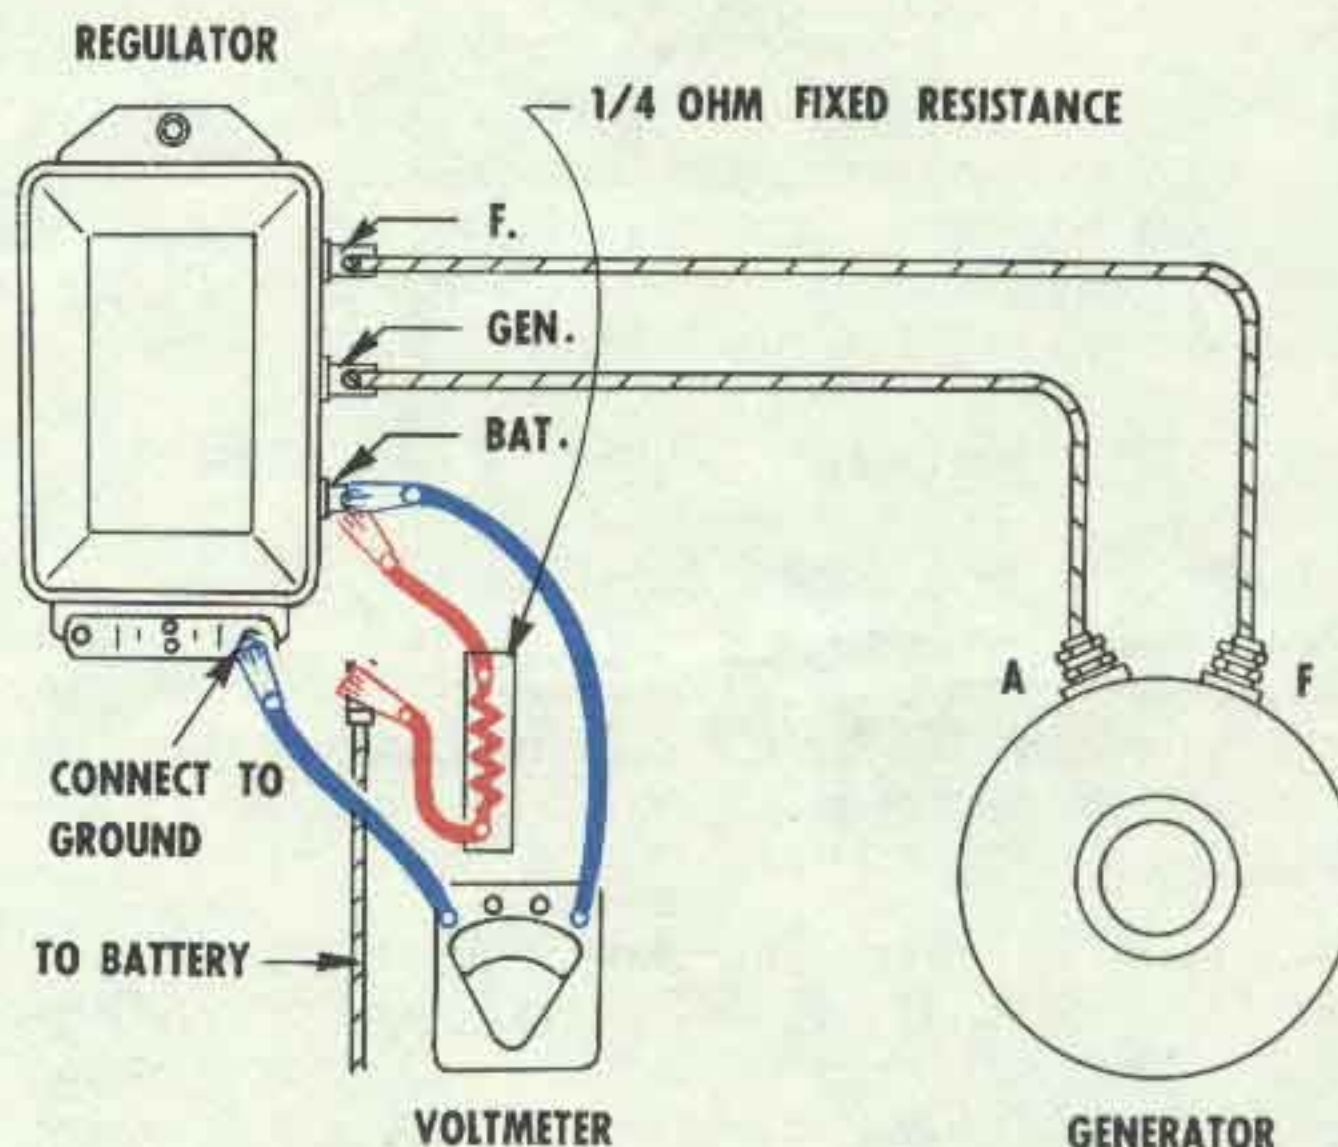
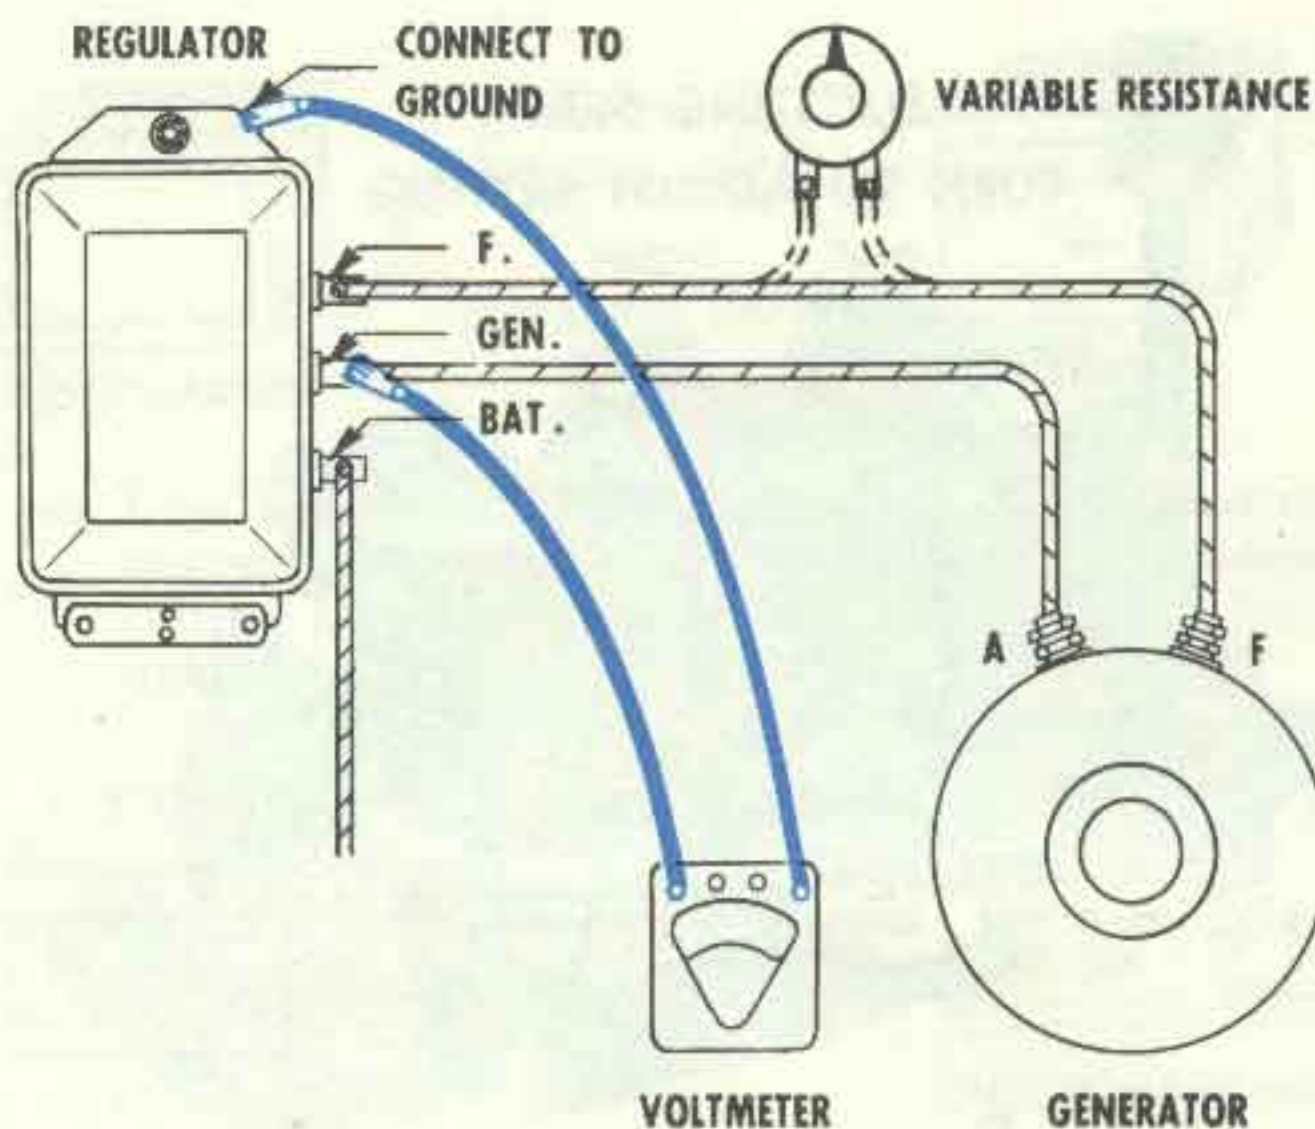

Figure 5—Fixed resistance and voltmeter connections to check voltage regulator settings. Fixed resistance leads shown in red and voltmeter leads shown in blue.
Figure 10—Voltmeter connections to check cutout relay closing voltage. Variable resistance may be connected as shown for cycling generator.
1. Connect a 1/4 ohm fixed resistor (not less than 25 watts) into the charging circuit at "BAT" terminal of regulator (*in series with battery*) as in Figure 5.
2. Connect a voltmeter from regulator "BAT" terminal to ground (Fig. 5).
Method B—Connect a variable resistance into the field circuit, as in Figure 10. Turn out all resistance. Operate generator at specified speed. Slowly increase (turn in) resistance until generator voltage is reduced to 2 volts on a 6-volt system, or 4 volts on a 12-volt system. Turn out all resistance again, and note voltage setting (with voltmeter connected as in Figure 5). Regulator cover must be in place.
1. Connect regulator to proper generator and battery. Connect voltmeter between the regulator "GEN" terminal and ground. (Fig. 10).
Method B—Make connections as in Step 1, but in addition add a variable resistor connected into the field circuit (Fig. 10). Use a 15 ohm-25